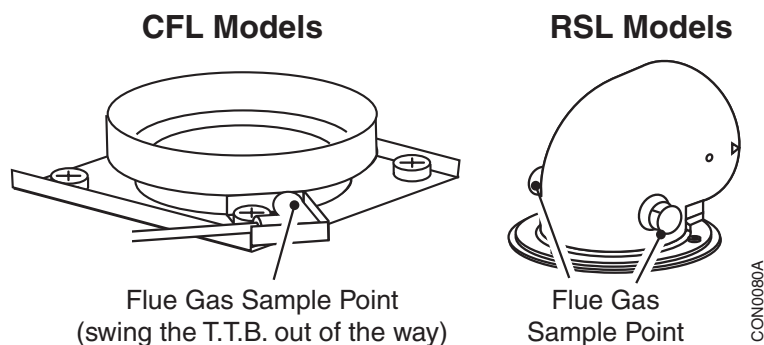

Fig. 24
- 5 Re-fit the front cover, plinth, top cover and controls panel (see Fig. 24, page 26). ☐